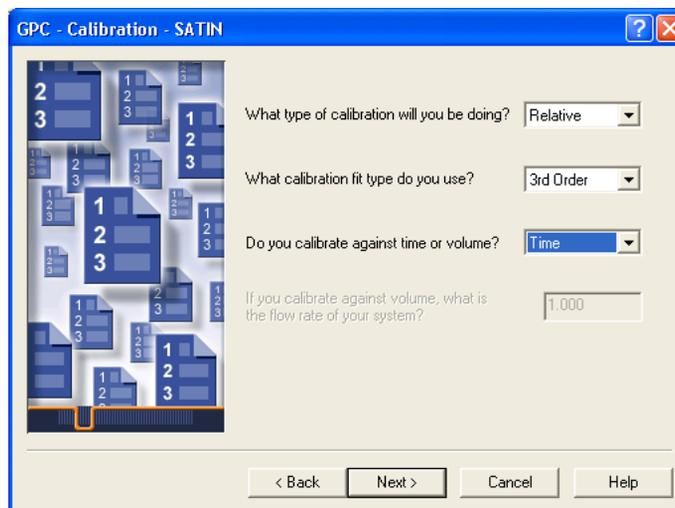

Figure 3-10 Setting GPC Calibration Parameters
9. Click **Next** to go to the GPC–Calibration page (Figure 3-10).
10. Leave the GPC calibration parameters at their current settings (Figure 3-10).